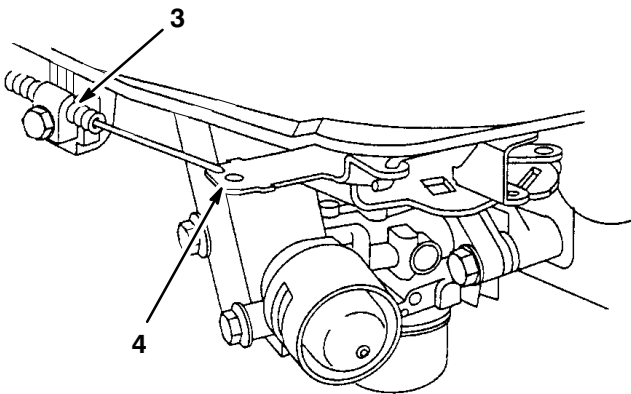
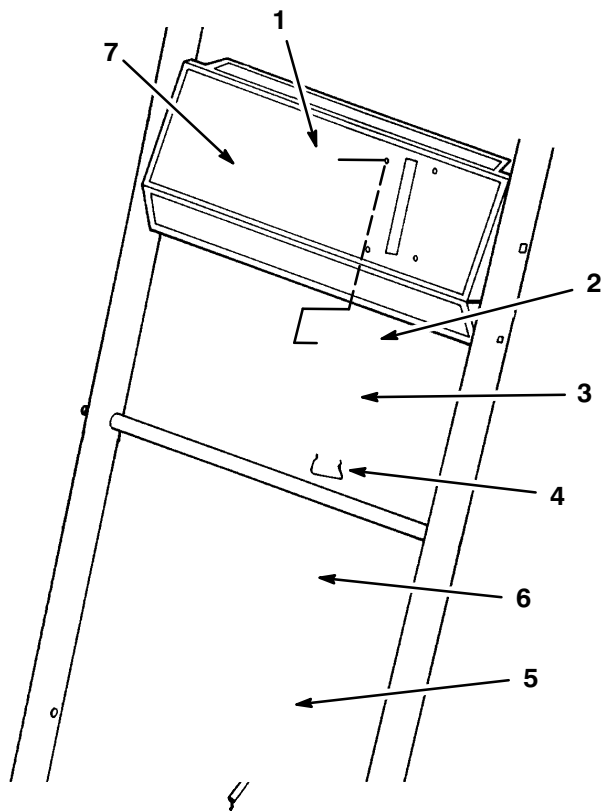

Figure 14
Figure 15
10. Connect throttle cable to throttle arm on engine (Fig. 14).
13. Install new cable clamp and cable clamp screw to engine (Fig. 14). Tighten cable clamp screw to lock throttle cable in place.
1. Remove (4) Phillips head screws and (4) lock nuts securing throttle control to control panel (Fig. 15). Retain screws and lock nuts. Discard throttle control, throttle control retainer and throttle cable.
2. Remove and discard old control panel decal. Install new control panel decal (Fig. 15).
3. Install new throttle control using (4) Phillips head screws and (4) lock nuts previously removed. Install new throttle control retainer.
7. Install new cable clamp and cable clamp screw to engine (Fig. 14). Tighten cable clamp screw to lock throttle cable in place.